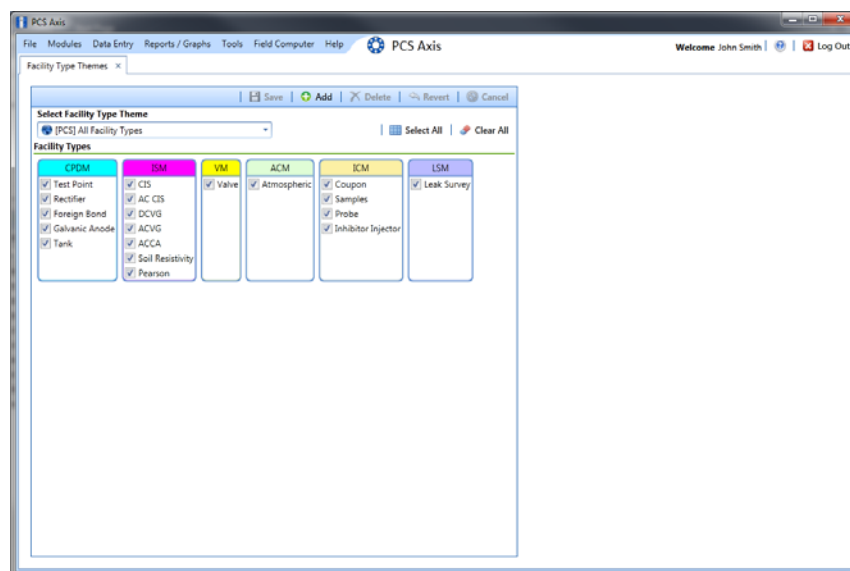

Figure 13-1. Facility Type Themes
- 1 Click **Tools > Facility Type Themes** to open the *Facility Type Themes* window (Figure 13-1).
- Click the check box for each facility type you want to add, then click  **Save**. A check mark inside a check box indicates a selection (Figure 13-1).